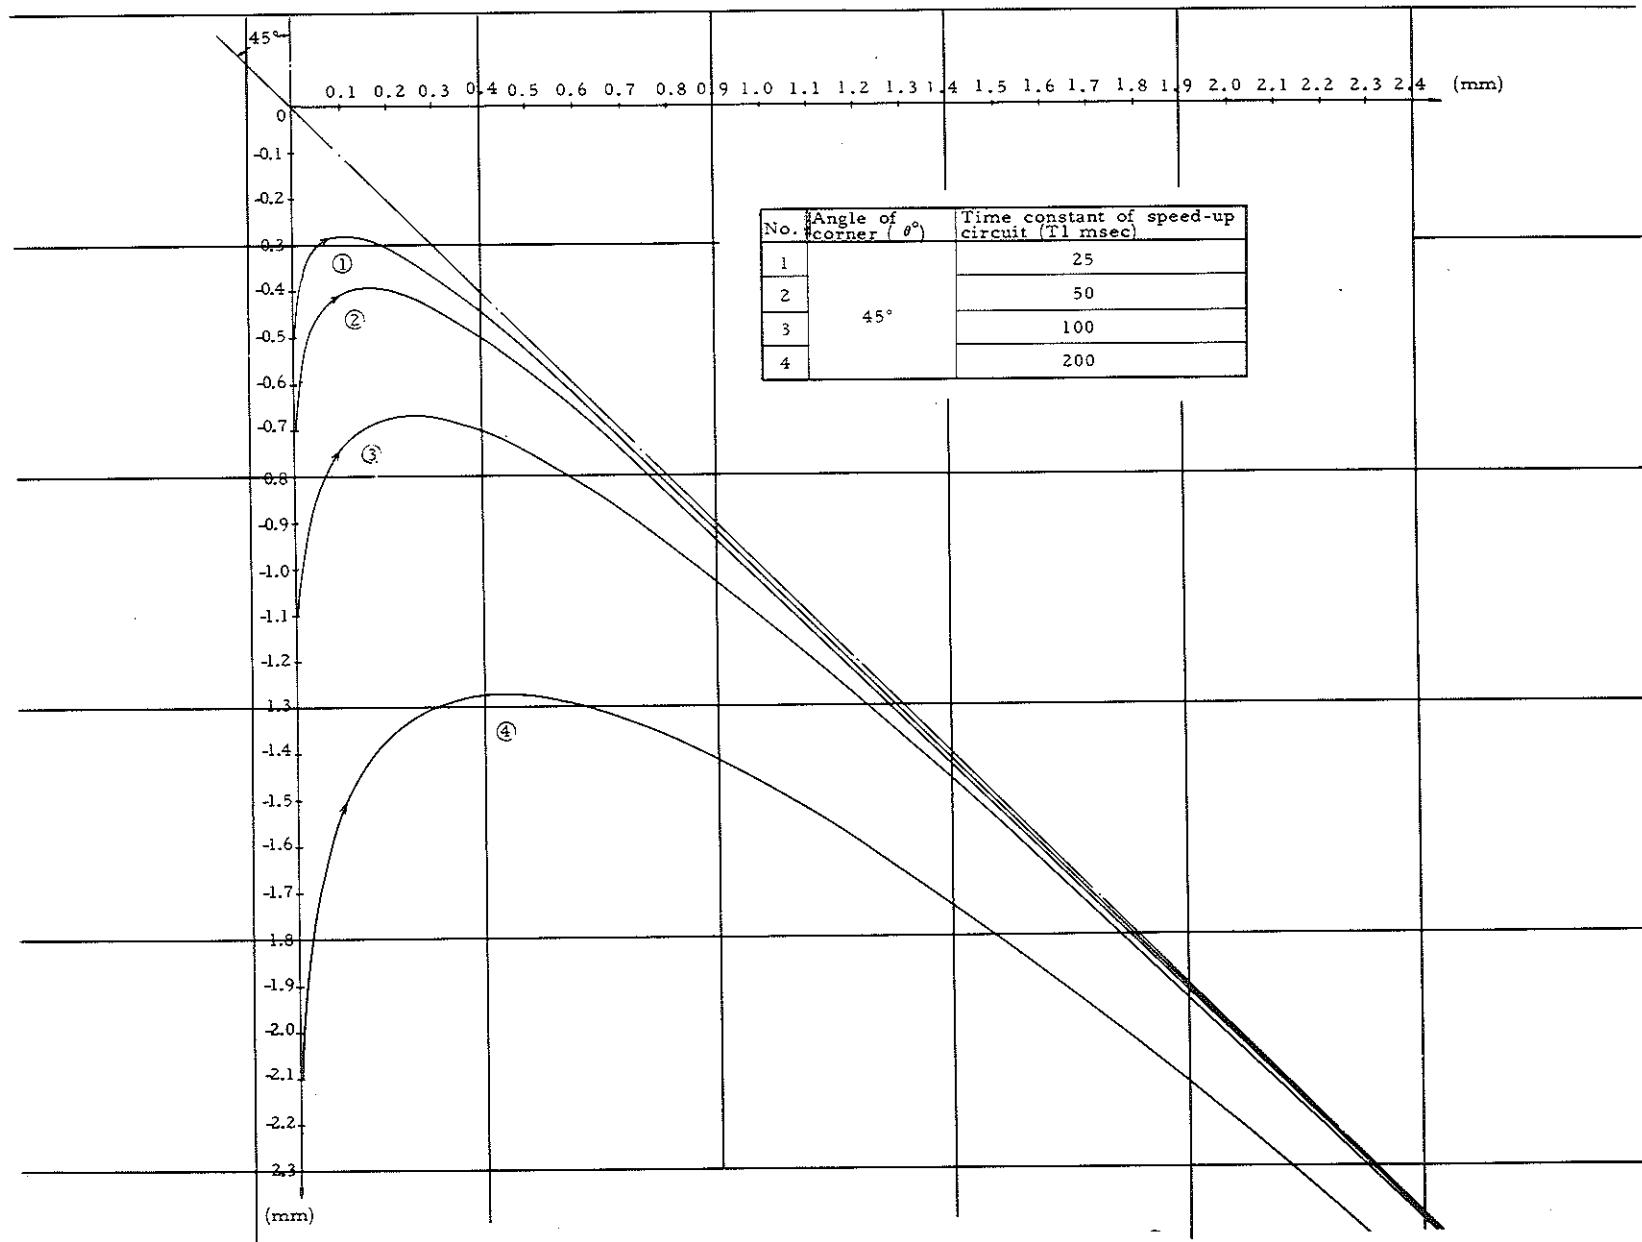

Fig. 3.4 Example of tool path at corner
Examples of tool locus are shown in Fig. 3-4 to 3-6 by use of formulas (5) and (6).